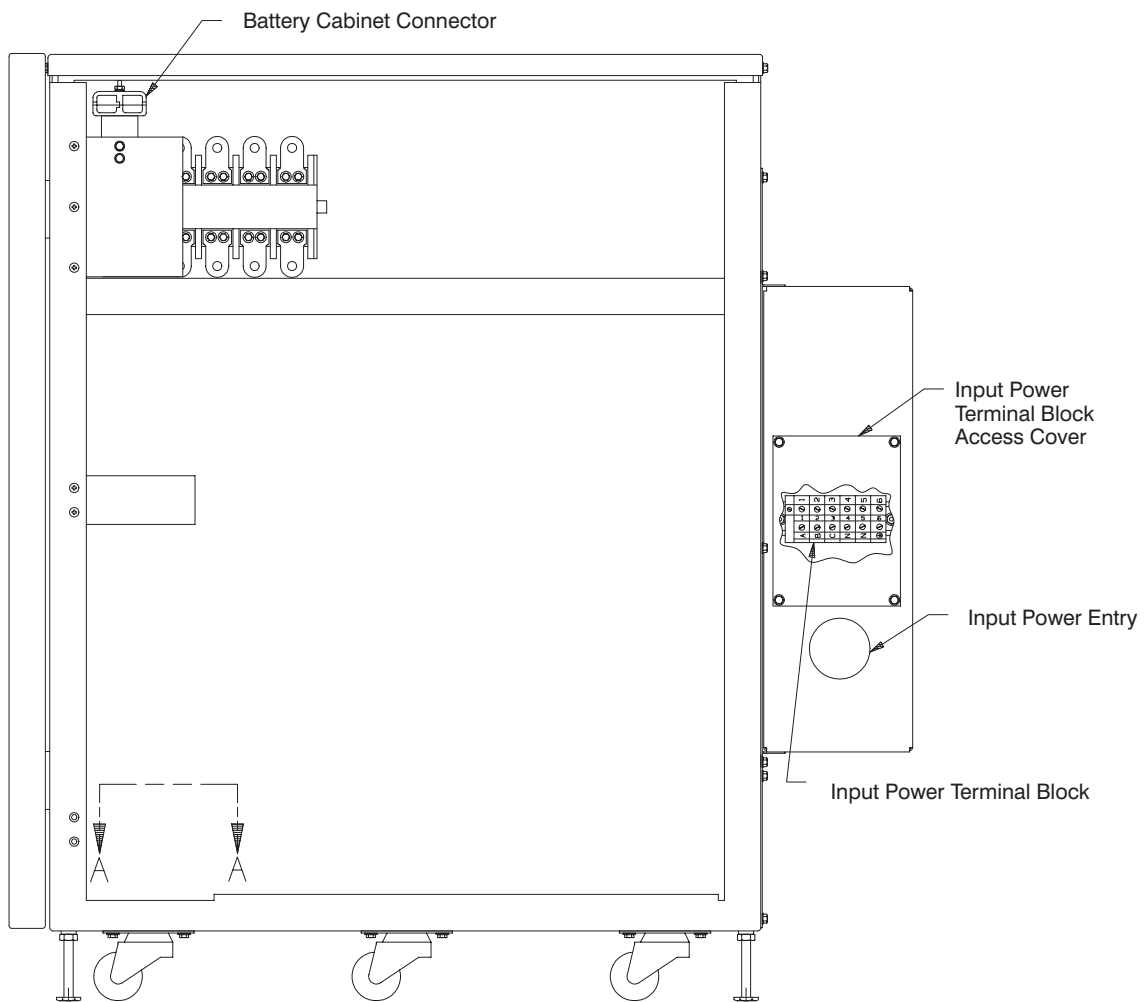

Figure 21. Options Cabinet Right Side View
1. Locate the input power terminal block access cover (see Figure 21).